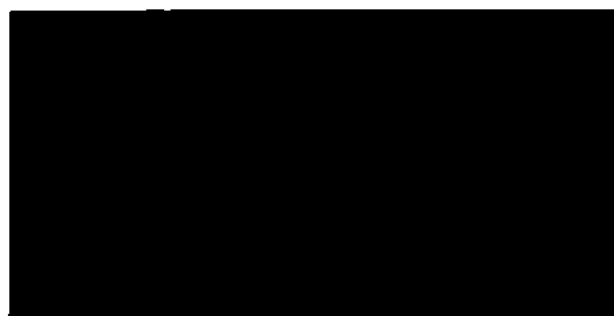

Figure 26. New Admin Password
5. Press **Select** to select **NEW PASSWORD =**. An OSD keyboard appears below the **CHANGE PASSWORD** menu (Figure 26).